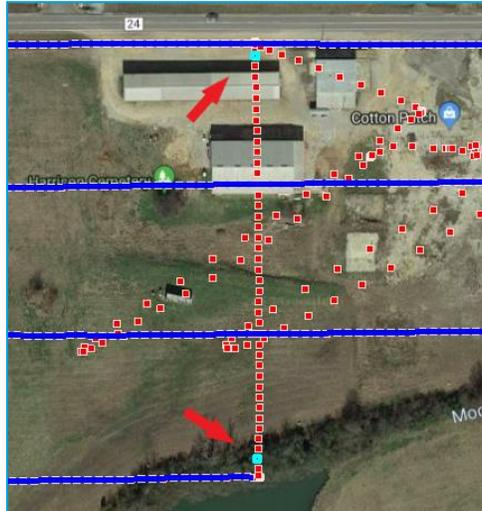

Figure 68 – Manually Creating Flight Lines
- c) Hold control, then select a trajectory point at the end of the flight line. Both trajectory points should now be highlighted (Figure 68).